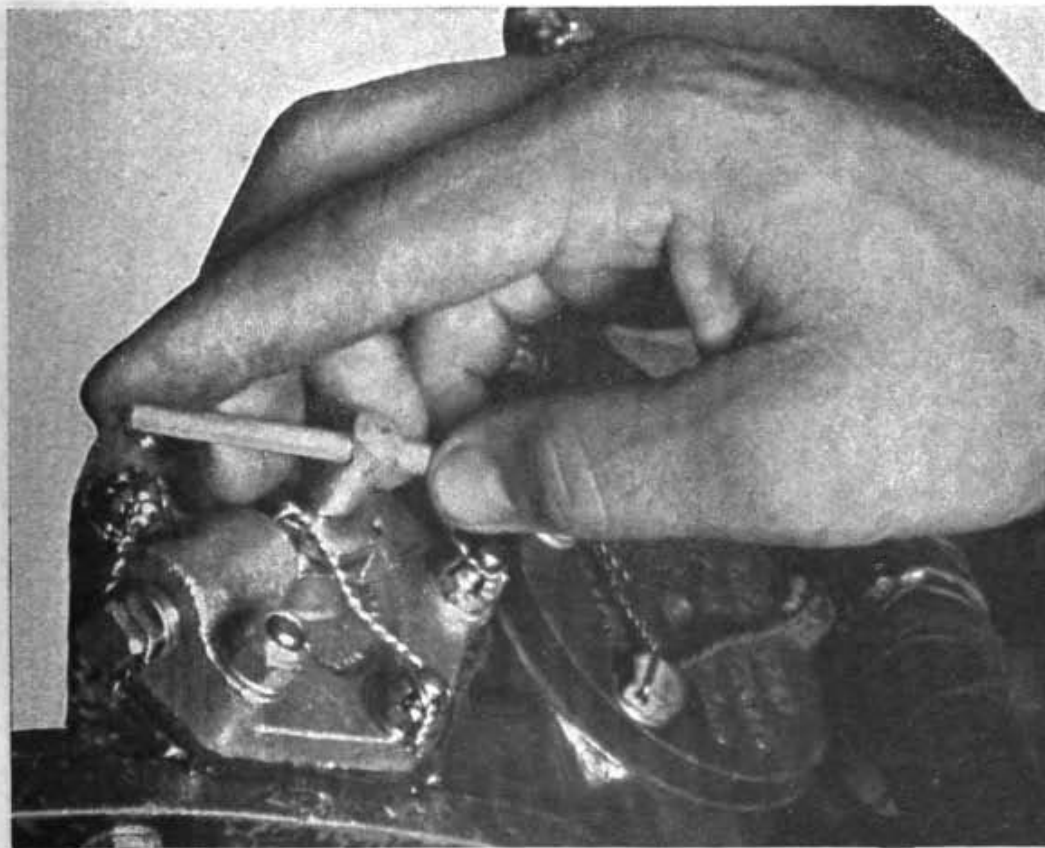
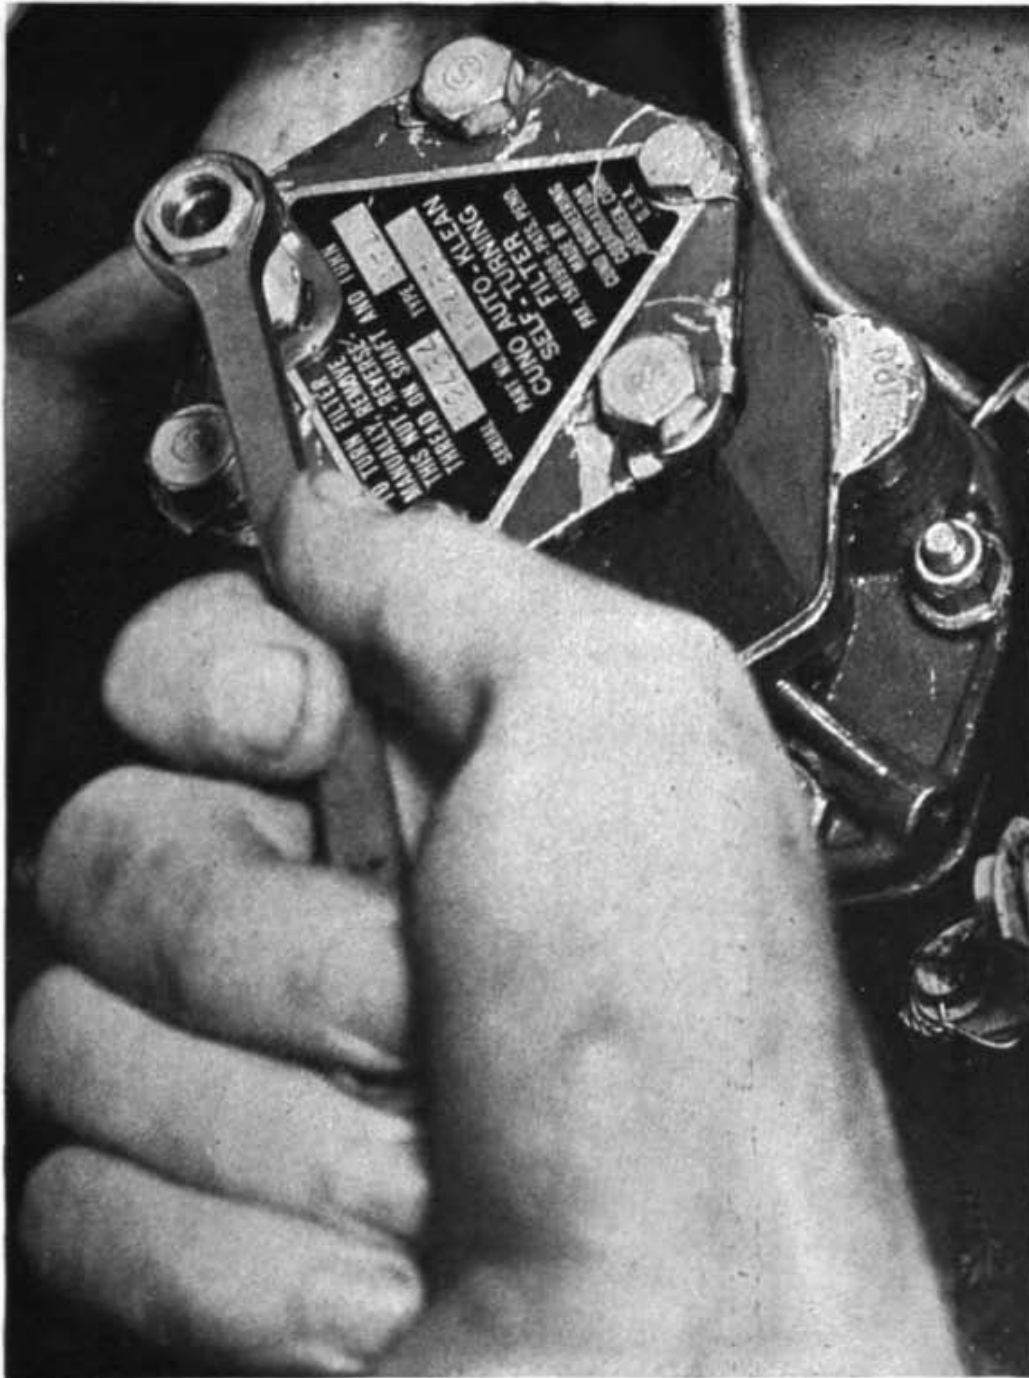

Figure 69. Checking the operation of a manual Cuno.
Figure 70. Checking automatic Cuno disks for freedom of movement.
(1) Grease-lubricated superchargers are lubricated with grease as specified in the Technical Order. During summer operation grade 275 is used and grade 375 is used for winter conditions.
(2) Both the manual and automatic Cunos are checked. The handle of the manual type Cuno is rotated one turn counterclockwise (fig. 69). To check the automatic Cuno, remove the pinion shaft nut, turn it upside down, and screw it back on. Mark one face of the pinion nut, and note the position of the face. Operate the engine at idling speed for approximately 5 minutes, and then note the position of the marking on the pinion nut. Movement of this nut is an indication that the automatic filter turning mechanism is operating. If the nut appears as not having moved, restart the engine and operate for about 1½ minutes and recheck the position of the marking, because the marking may have returned to its original position. If the pinion nut has not turned, remove and replace the filter with one the operation of which is known to be satisfactory. To check the automatic Cuno without operating the engine, use the proper wrench and check to see if the disks turn freely. (See fig. 70.) After checking the filter, reinstall the pinion nut in its original position.